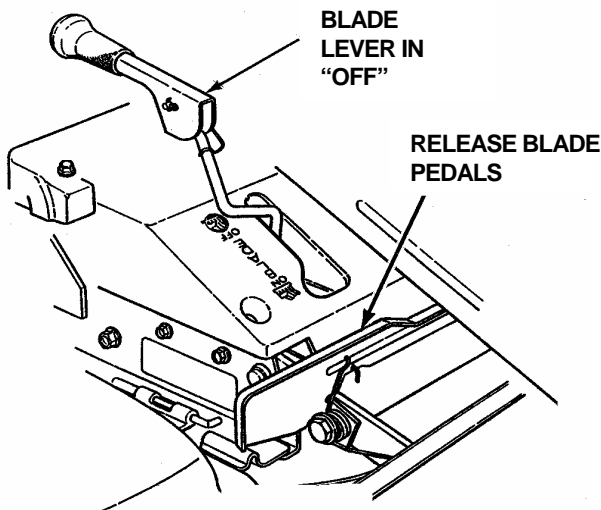
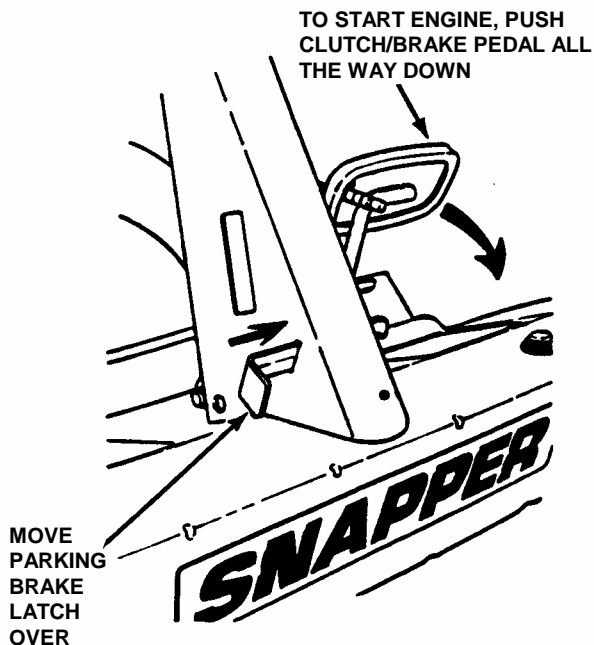

FIGURE 2.4
FIGURE 2.8
1. Move transmission shift lever to (N) Neutral position. **DO NOT** start engine with transmission shift lever in a drive position.
2. Make certain the Blade Lever is in the "Off" position. See Figure 2.4.
IMPORTANT: When the ignition key is turned to "ON", and the recoil handle is pulled, the engine will turn over, but will not start unless the Clutch/Brake Pedal is pressed all the way down with Parking Brake engaged (See Figure 2.8) and the Blade Lever is in the "Off" position (See Figure 2.4). Start engine as follows:
3. Press Clutch/Brake Pedal all the way down, move Parking Brake Latch over and release the Clutch/Brake Pedal to set Parking Brake. See Figure 2.8.